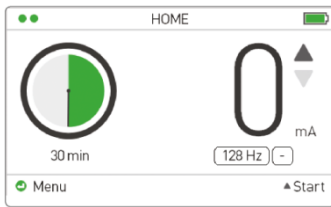

Figure 42. Home
1. At HOME (see figure 42), press .